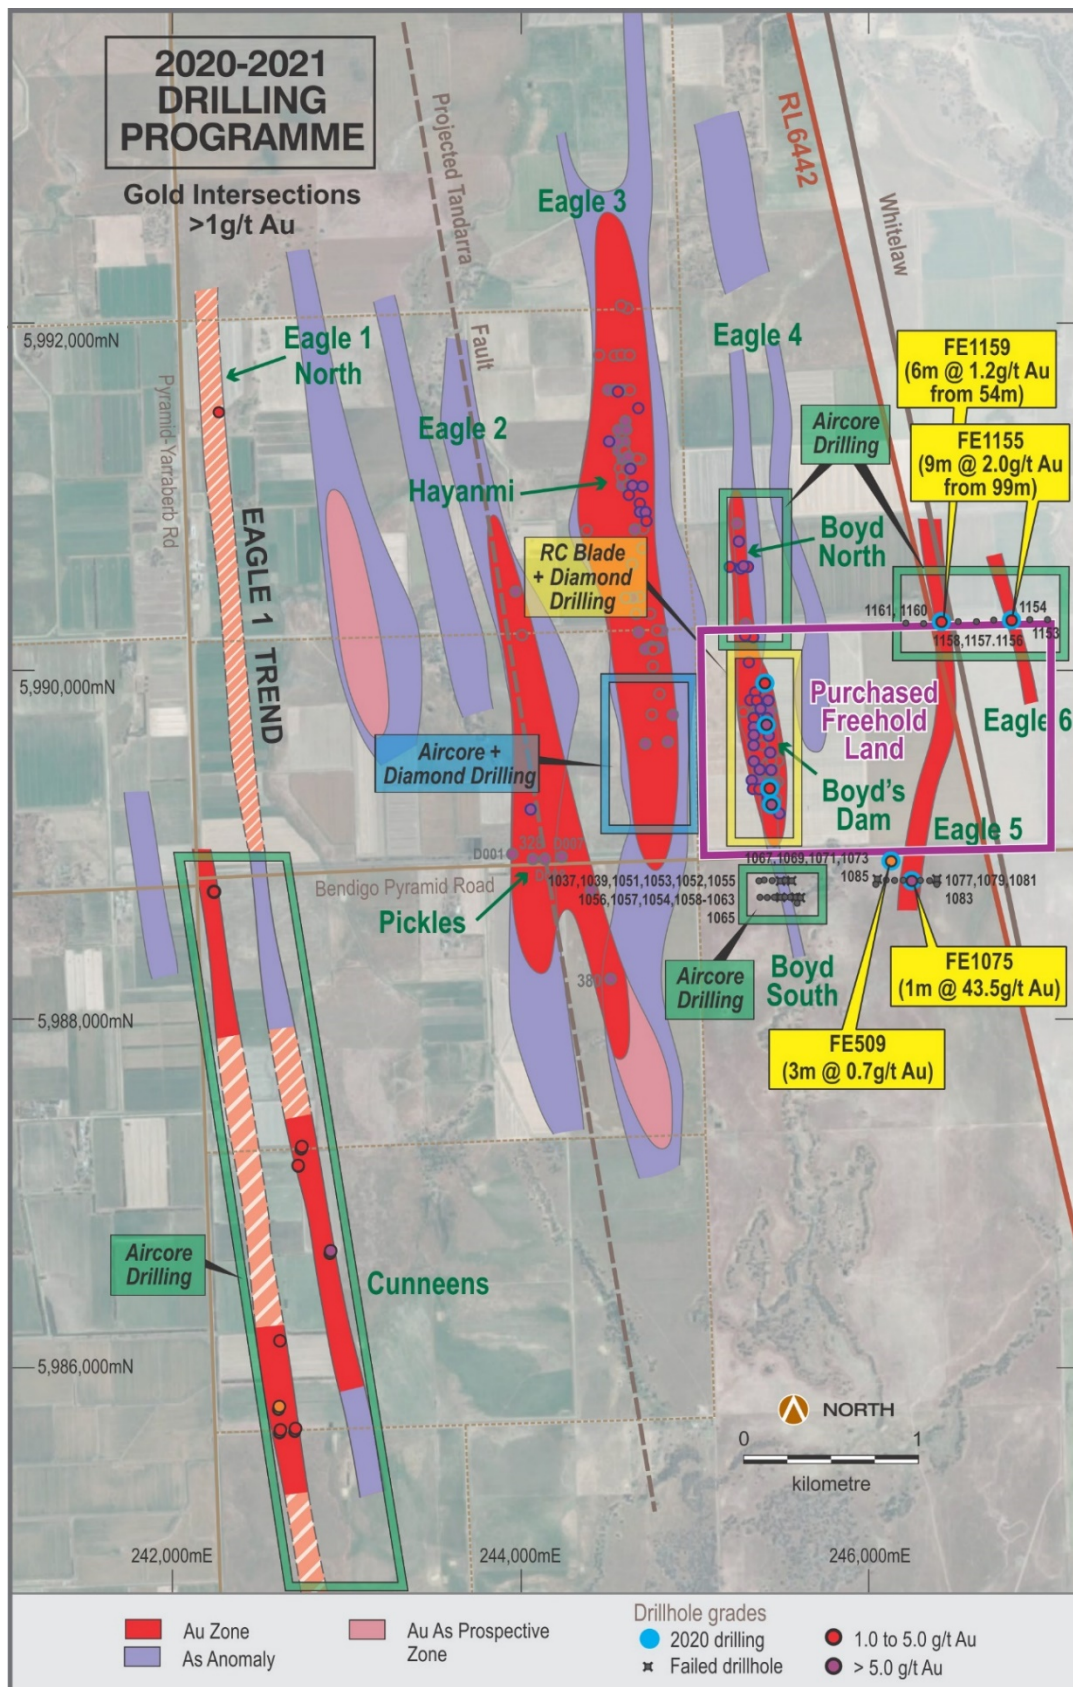

Figure 2: Four Eagles Gold Project showing lines of gold mineralisation and Boyd's Dam location
Retention Licence (RL) 006422 flanked by the three EL's comprises the Four Eagles Gold Project and covers an envelope of gold mineralisation about 6 kilometres long and 2.5 kilometres wide, including three prospects which have produced high grade gold mineralisation (Boyd's Dam, Hayanmi, and Pickles). This mineralisation footprint may now be much larger with the intersection of high-grade gold mineralisation at Cunneens to the south-west and Eagle 5 to the east (Figure 2).